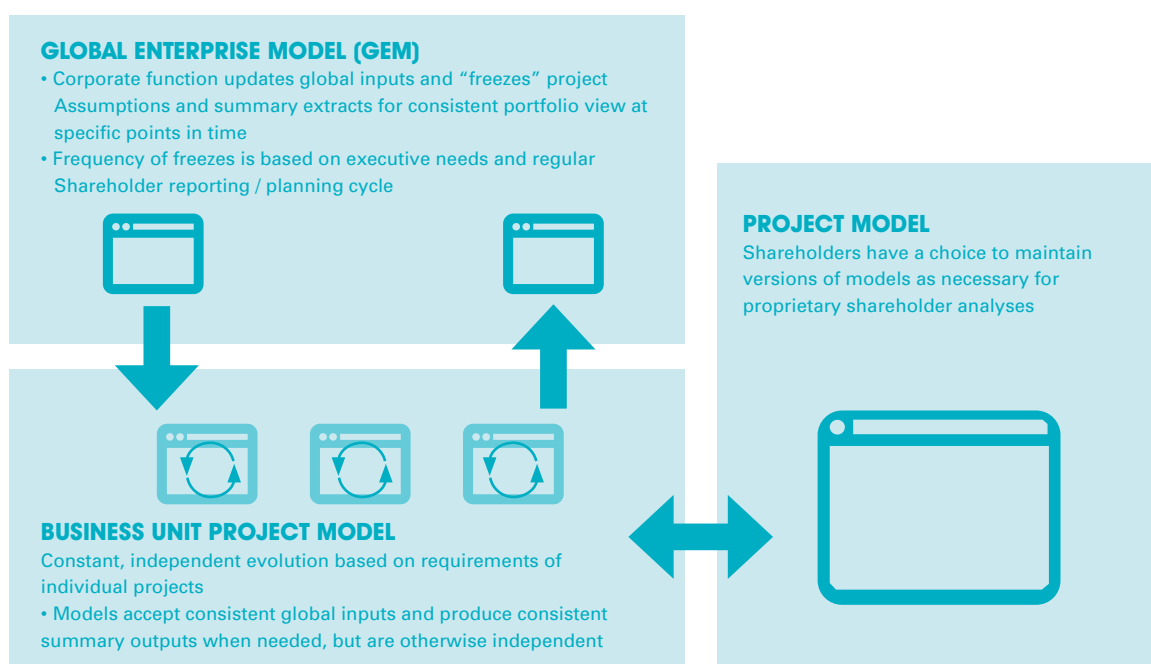

Figure 1 – Number of model versions
6. There may be multiple models in place. For example, you may have a single project model, most likely simple and deterministic, that all parties use at management meetings. Your company may have its own model at the business unit level which contains proprietary price forecasts and additional cost / revenue assumptions. This model is primarily a probabilistic model that can be used for Monte Carlo analysis. Lastly there may be the corporate portfolio. This is illustrated in Figure 1 below.